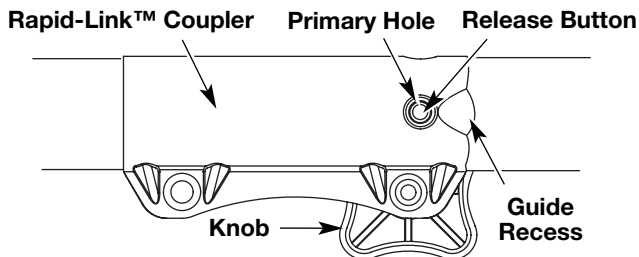
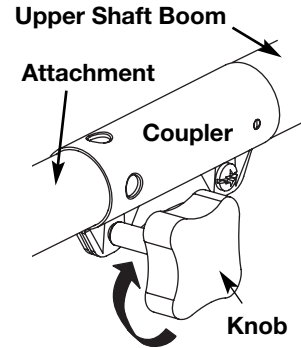

Fig. 3
Fig. 4
3. While firmly holding the attachment, push it straight into the coupler until the release button (Fig. 3) snaps into the primary hole (Fig. 3). The primary hole is on the opposite side of the coupler from the knob (Fig. 3). Align the release button with the Guide Recess (Fig. 3) to help installation.
**CAUTION:** Lock the release button in the primary hole (Fig. 3) and securely tighten the knob before operating this unit.
4. Turn the knob clockwise to tighten (Fig. 4).
**CAUTION:** Before operating this unit, be sure that the release button is fully snapped into the primary hole (Fig. 3), and that the knob (Fig. 4) is securely tightened.
3. Press and hold the release button (Fig. 3).
4. While firmly holding the upper shaft boom (Fig. 4), pull the attachment out of the coupler.